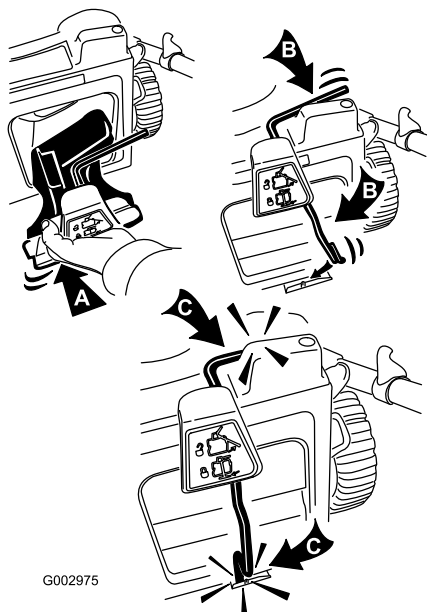

Figure 34
3. Insert the mulch plug and rotate the latch rod until it locks into place at both the top and the bottom (Figure 34).